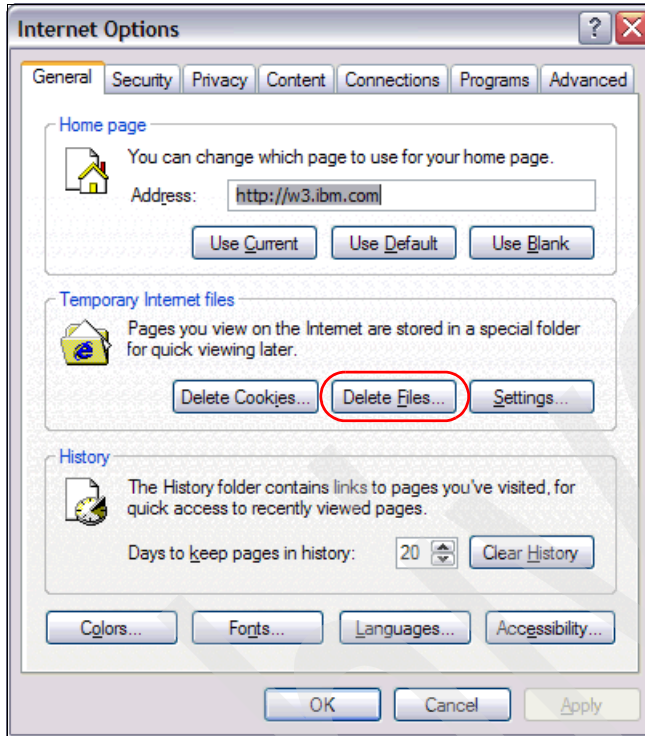

Figure A-25 Access to IE cache options
- ▶ For Internet Explorer® 6 (IE)
- a. When using IE, to clear the cache data, select **Tools** → **Internet options** and make sure that the General tab is active. Then, as shown in Figure A-25, click **Delete files**.